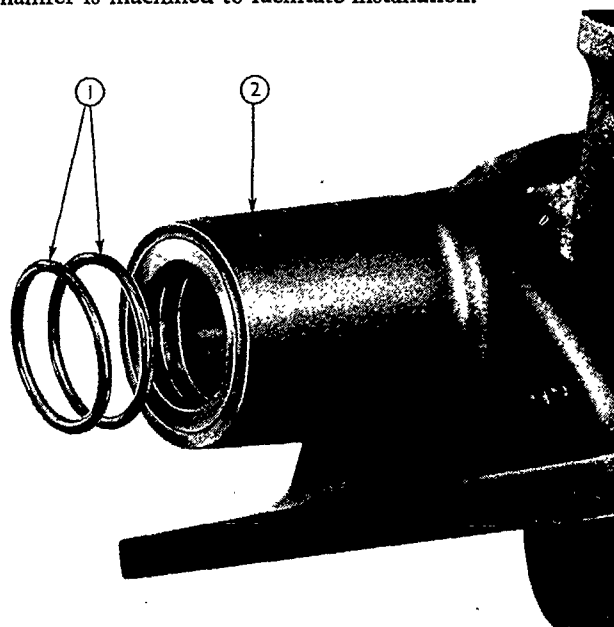

Figure 12
1. Remove the two rocker shaft "O" ring seals, Figure 12, from the seats in the main housing and renew.